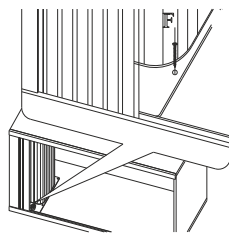

Fig. 8
5. Locate the spring mechanism in its position and screw it as shown in Fig.8.